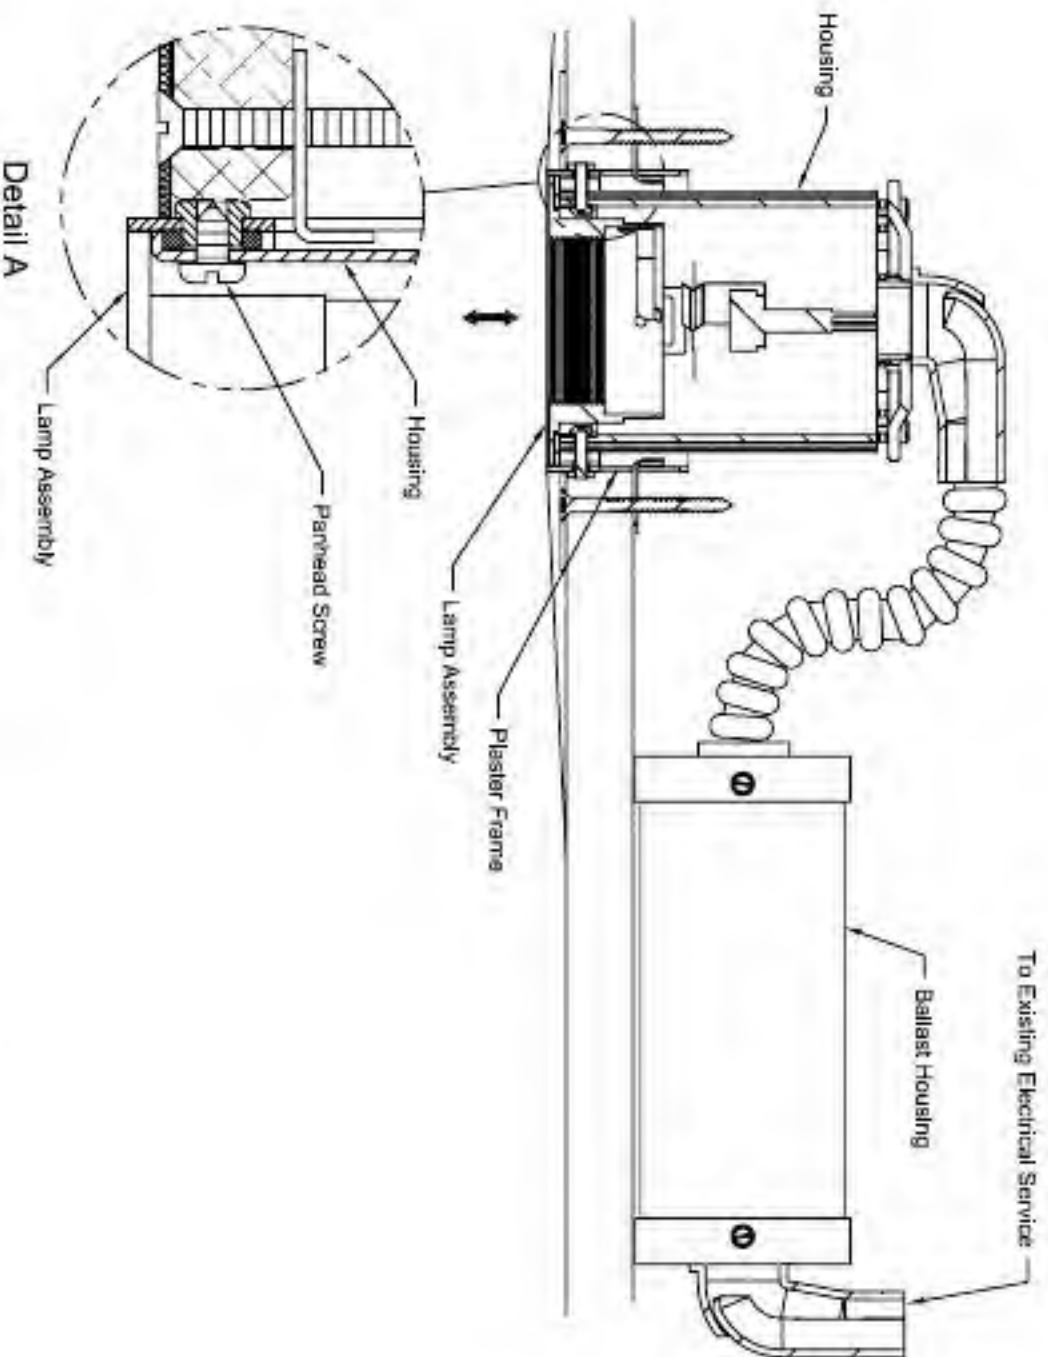

Figure 4
3. Remove two (2) Short Panhead Screws from inside of Housing/Plaster Frame Assembly. See Fig. 4. Retain Screws for re-installation.
5. Rotate Ballast Housing 90° and, with it resting on inside of Ceiling, push to side to clear Plaster Frame in Ceiling. See Fig. 4.
1. Insert Housing into Plaster Frame and retain to Plaster Frame using two (2) Short Panhead Screws removed earlier. See Fig. 4, Detail A. Do NOT overtighten Screws!
2. Install Lamp Assembly into Housing unit & Seals in Housing. See Fig. 4.